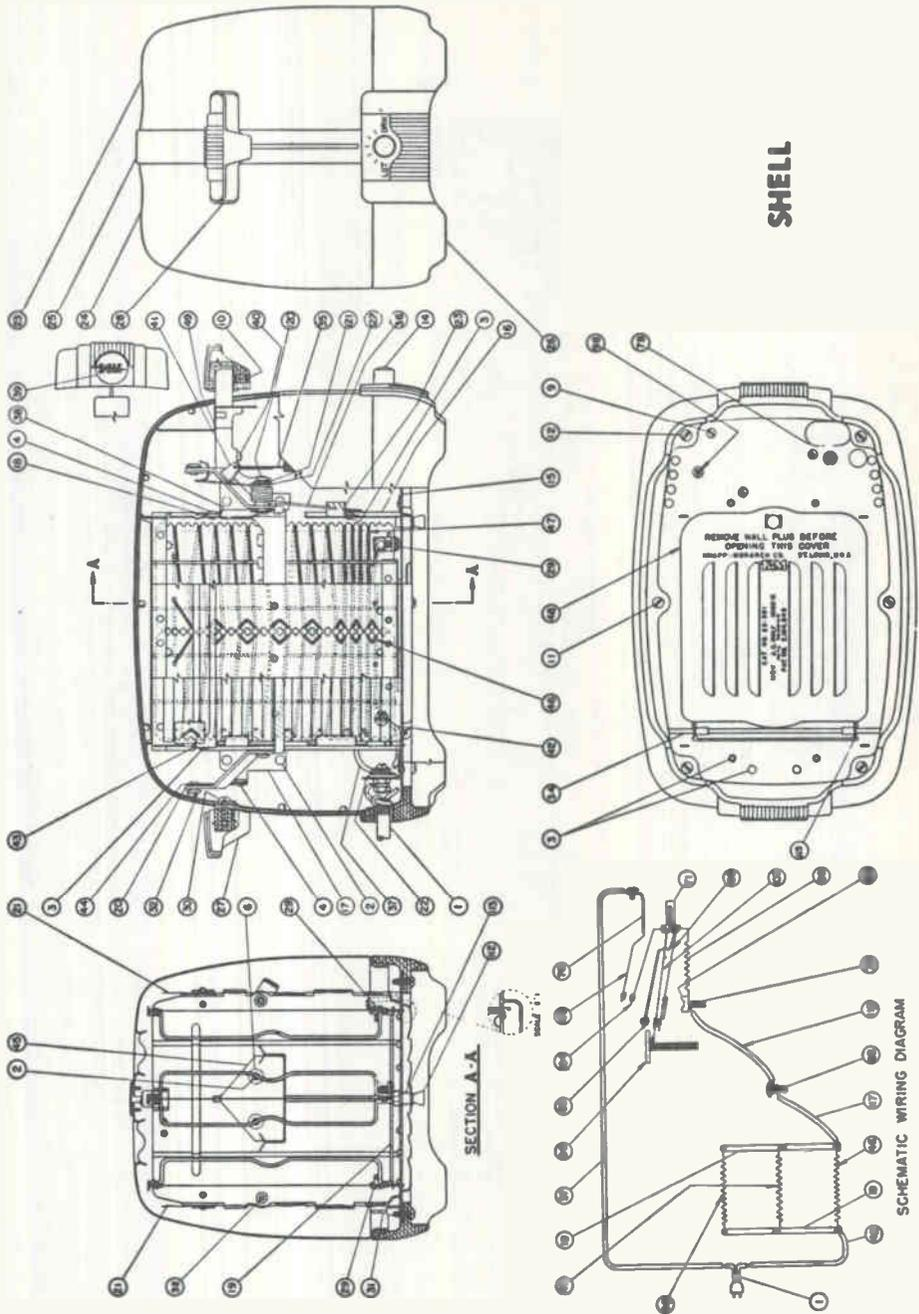

FIG. 10A. The Knapp-Monarch 22-501 automatic toaster.
This toaster requires 115 volts, 1060 watts ac only and is equipped with a control knob and bread carrier handle. It is shown in Figs. 10A and 10B. When the bread carrier handle (28) is pushed down and latched, it closes the main contacts (104 and 105), allowing current to flow through the main elements as well as the heater ribbon (89) located just beneath the bi-metal (65). The heat from the ribbon causes the bi-metal to curve downward towards the upper spring blade (107).